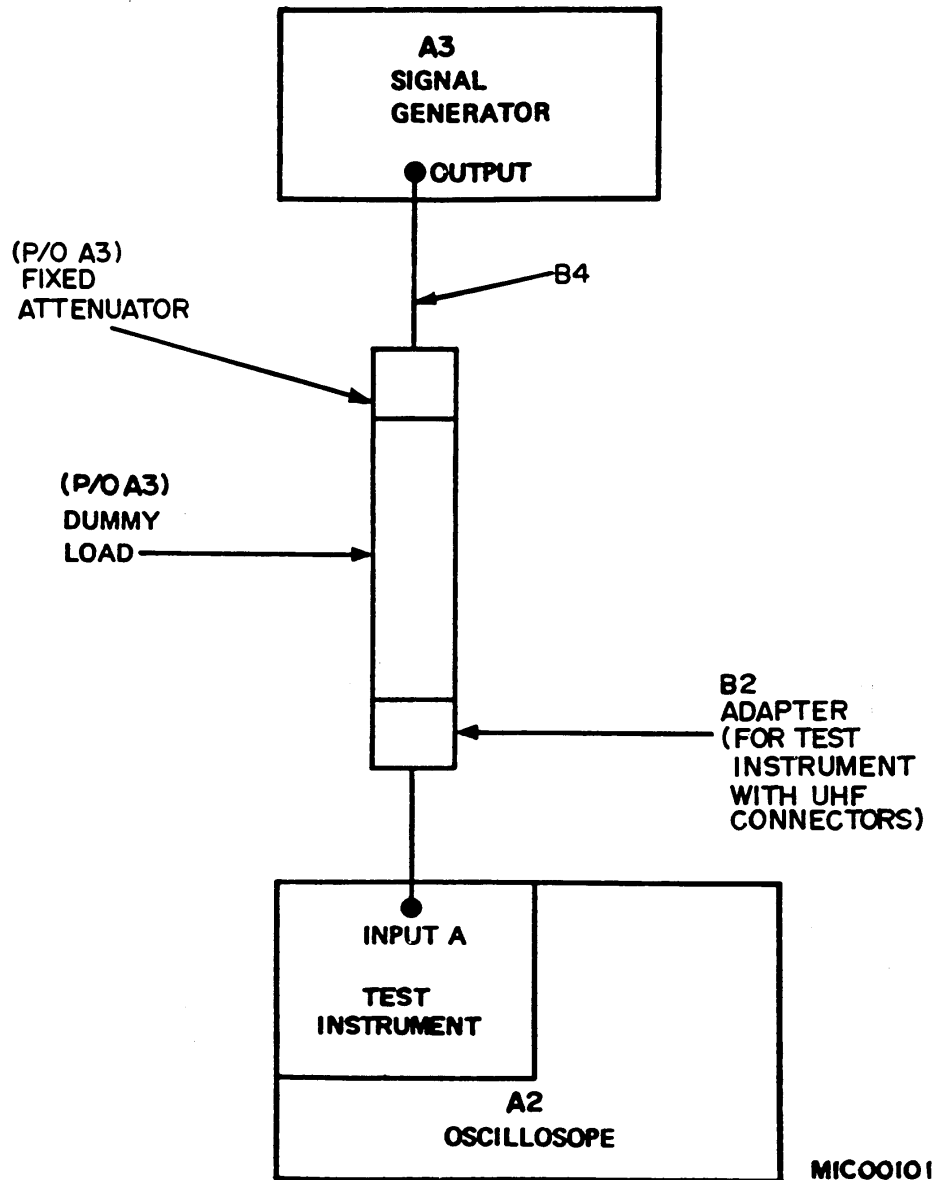

Figure 5. High-frequency peaking setup.
- (1) Connect equipment as shown in figure 5.
- (2) Position TI controls as listed in (a) and (b) below: